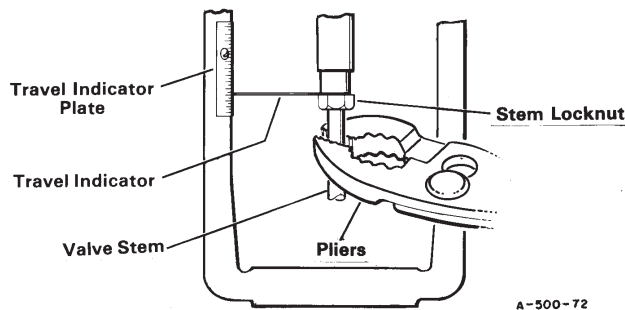

Figure 7. Adjusting Valve Plug Travel
4. Loosen stem locknut, Figure 7. Grip valve stem near threads, and turn stem to move valve plug the distance measured in Step 2.
3. Loosen stem locknut, Figure 7. Grip valve stem near threads, and turn stem to move valve plug the distance measured in Step 2.